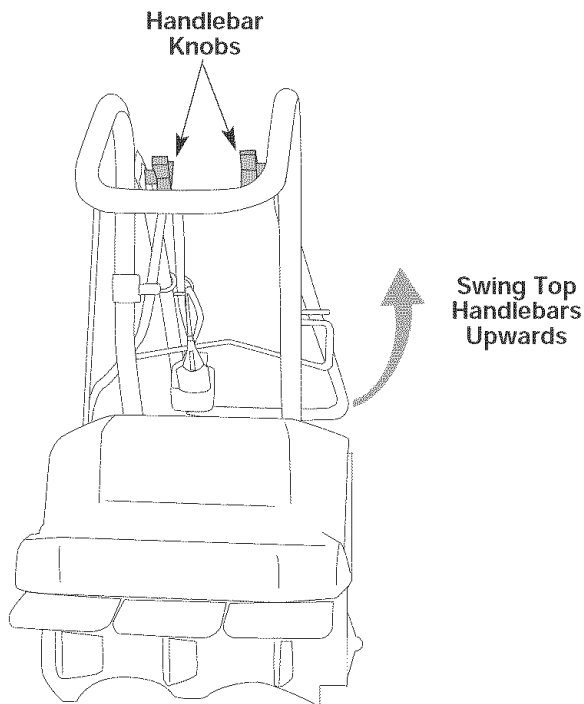

Fig. 1
1. When you unpack the unit, loosen the two knobs on the inside of the handlebars (Fig. 1).